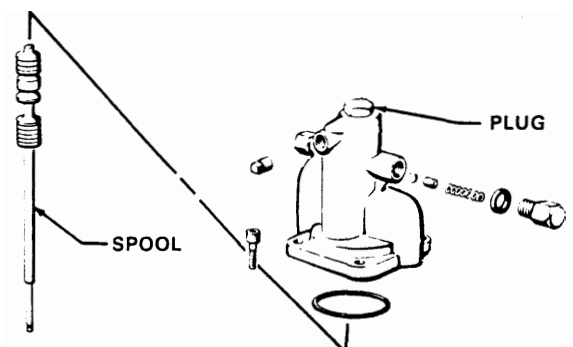

Fig 7
- Relieve fluid pressure when not using the sprayer to avoid the pump stalling out at the top of its stroke. If the pump stalls, follow the **Pressure Relief Procedure Warning** on page 10, remove the plug from the top of the hydraulic motor and push the spool all the way down. See Fig 7. Replace the plug and restart the sprayer.